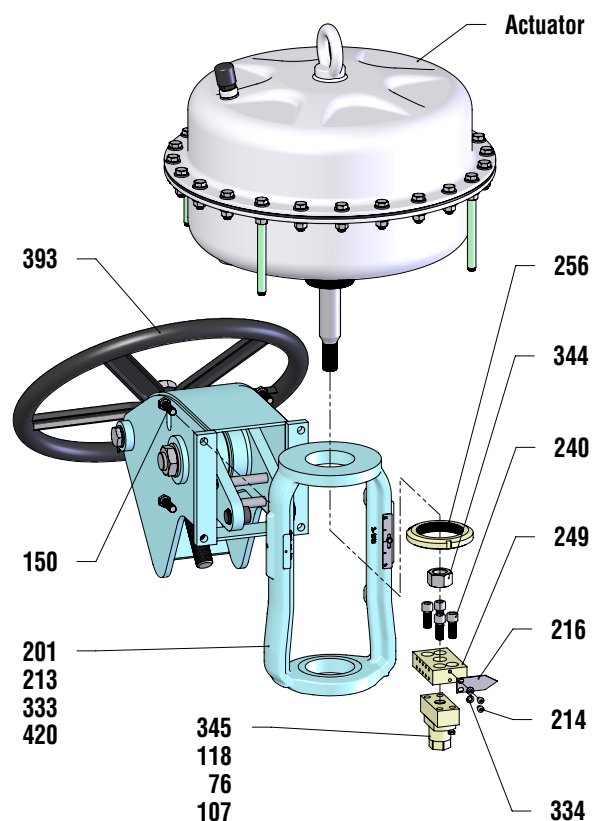

Figure 32: Coupling parts
10. If necessary mount actuator onto the yoke (201) put in line with the mark and tighten the actuator locknut (256) counter-clockwise. The vent plug shall be at a right angle to the yoke legs (see figure 32).
11. Screw in the lock nut (344) and the actuator coupling (249) - screw-in depth once thread diameter - counter-clockwise and fix it. Aligning the coupling parallel to the yoke.
12. Mount the stroke indicator (216), plain washers (334) and the socket head screws (214) clockwise.
13. Place the handwheel-side (393) mount the hex bolts (150) clockwise.